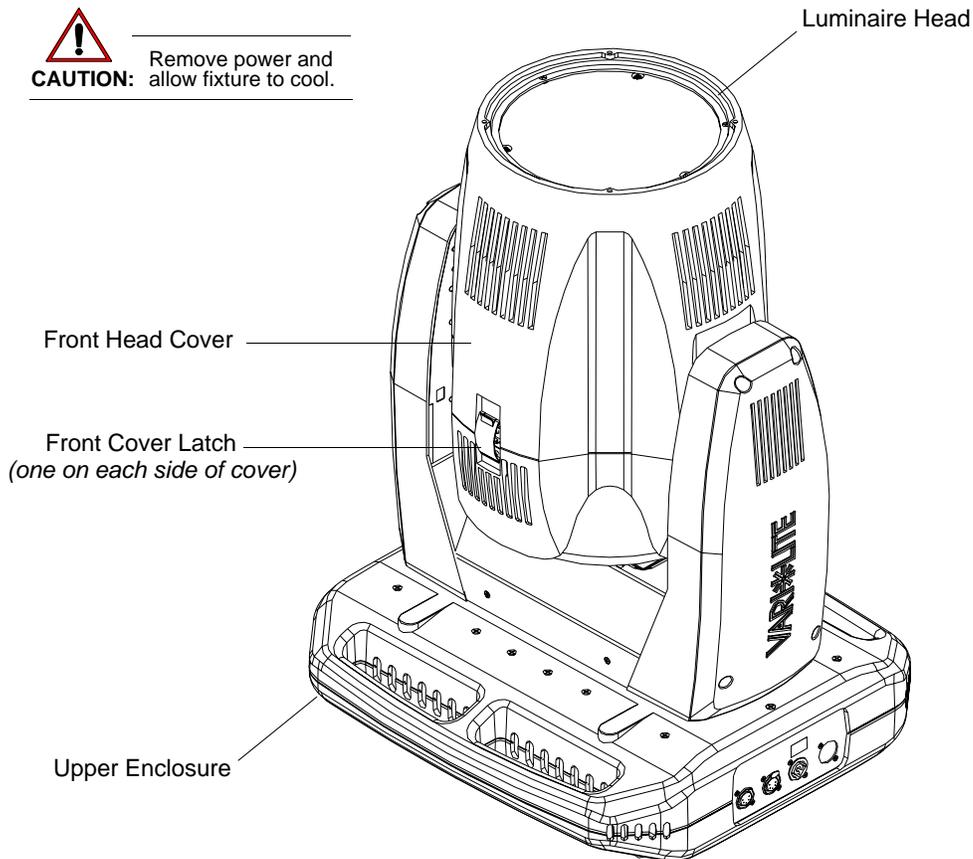

Figure 2-22: VLX Wash Luminaire
- Step 2. Carefully set luminaire on upper enclosure, rotate head as shown in Figure 2-22, and engage tilt lock.